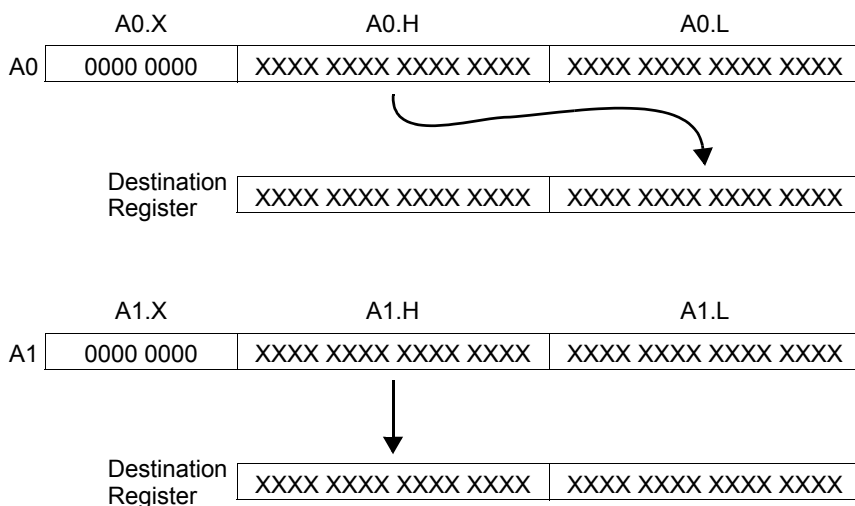

Figure 2-15. Multiplication of Fractional Operands
- If the multiplication uses fractional operands or the `IH` option, then the high half of the result is extracted and stored in the 16-bit destination registers (see Figure 2-15).